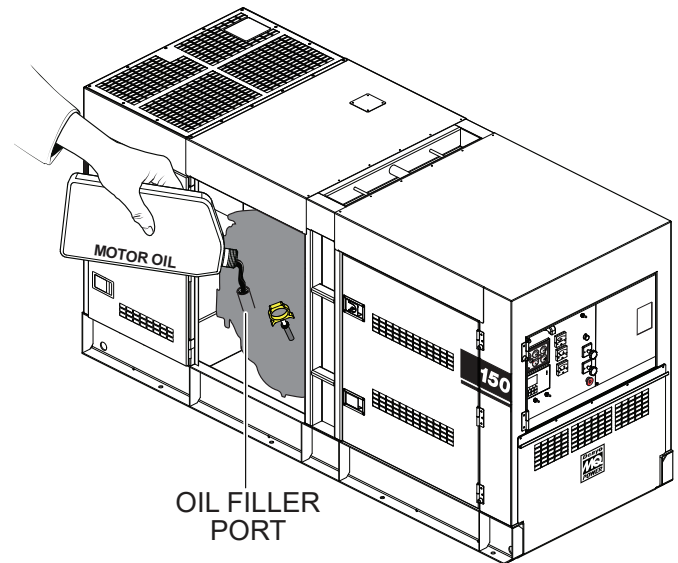

Figure 37. Engine Oil Filler Port
5. If the engine oil level is low (Figure 36C), remove the cap from the oil filler port (Figure 37) and fill to a safe operating level (max) as indicated by the dipstick (Figure 36A). Fill with recommended type oil as listed in Table 12. Maximum oil capacity is 8.18 gallons (31 liters).